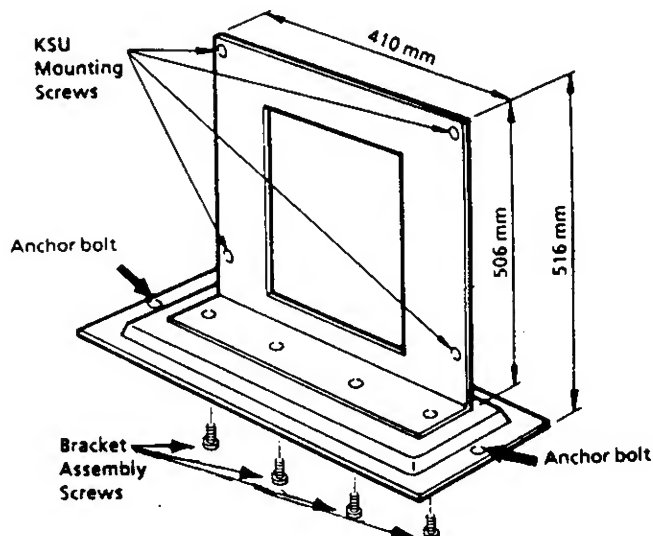

Figure 200-17 Floor mounting unit (FMU-Z)
1. Assembly of the floor mount bracket is required. Attach the base plate to the vertical bracket using the four screws provided. Insert the screws from the bottom as shown in Figure 200-17.